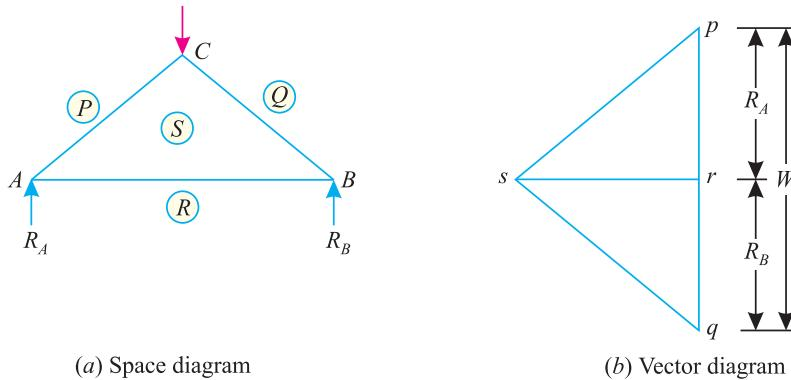

Fig. 14.1.
It means the construction of a diagram of the given frame to a suitable linear scale, alongwith the loads it carries. The magnitude of support reactions is also found out and shown in the space diagram. Now name the various members and forces according to Bow's notations as shown in Fig. 14.1 (a).
In the space diagram of the truss  $ABC$  shown in Fig. 14.1 (a), the members  $AB$ ,  $BC$  and  $CA$  are represented by  $SR$  (or  $RS$ ),  $SQ$  (or  $QS$ ) and  $PS$  (or  $SP$ ) respectively. Similarly, load at  $C$  and reactions at  $A$  and  $B$  are represented by  $PQ$ ,  $RP$  and  $QR$  respectively.
4. Now through  $p$  draw a line  $ps$  parallel to  $PS$  and through  $r$  draw  $rs$  parallel to  $RS$ , meeting the first line at  $s$  as shown in Fig. 14.1 (b). Thus  $psrp$  is the vector diagram for the joint (A).
5. Similarly, draw the vector diagram  $qrsq$  for the joint (B) and  $pqsp$  is the vector diagram for the joint (C) as shown in Fig. 14.1 (b).